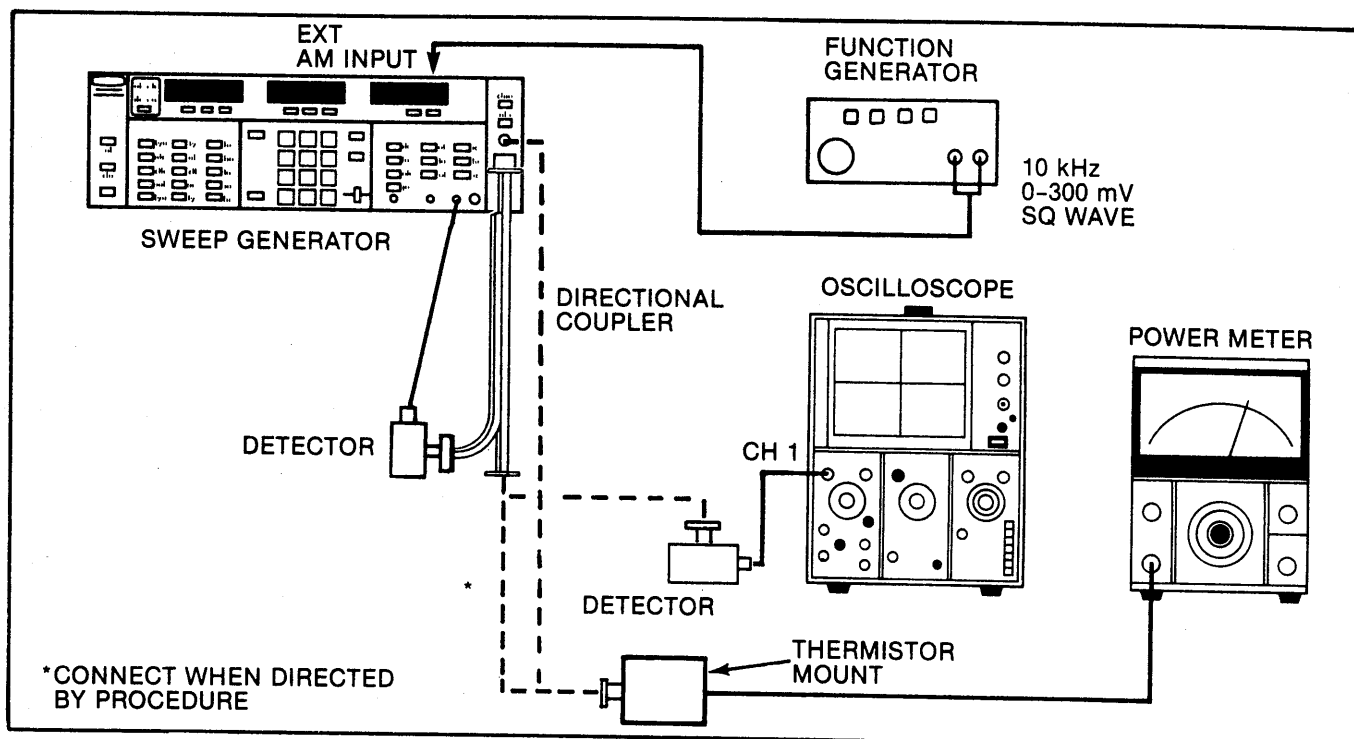

Figure 5-42. Model 6642A, Test Equipment Setup for Making ALC Loop Calibration Adjustments
1. Set up the test equipment as shown in Figure 5-42 (oscilloscope connected to the directional coupler); turn the equipment on.